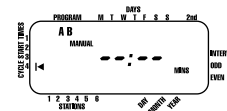

FIGURE 12: LCD Display with Manual Operation
- Press the **MANUAL** key. Then press **NEXT** three times. The display will show a blinking cursor on station 1 along with -- MINS [See Figure 12].